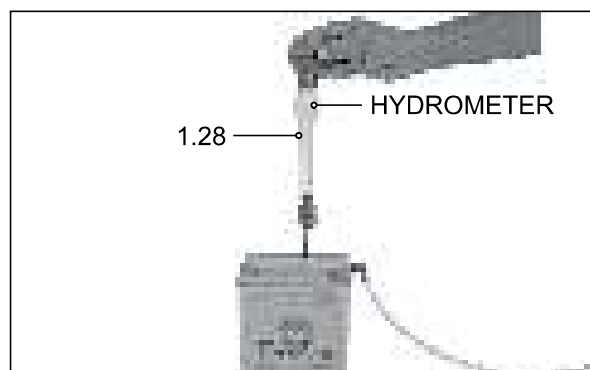

Fig. 5.100
- Battery can be considered to be fully charged when three consecutive specific gravity (SG) readings taken at intervals of 30 minutes each, indicating a reading of 1.28. (Fig. 5.100)